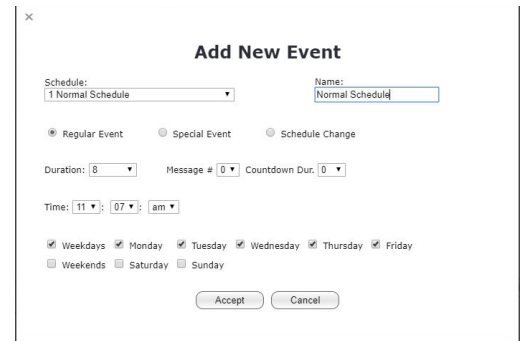

Figure 9
7. *Schedule Description*: This displays the schedule name as defined in the Event Edit window (Figure 9).